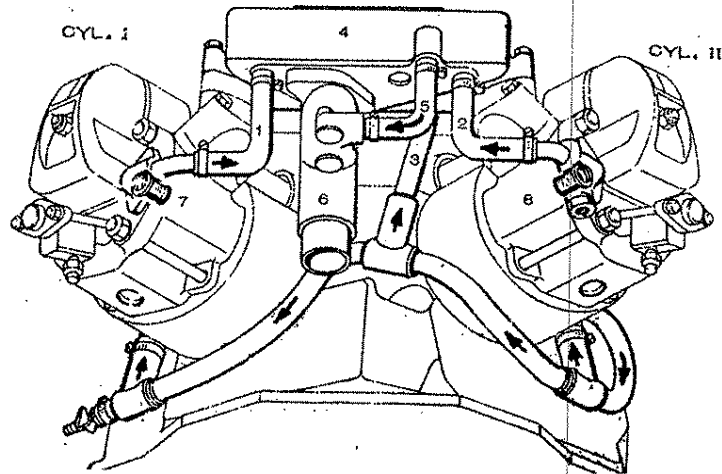

Fig. 70
- Twin cylinder engines: see no. 3 in Fig. 70.